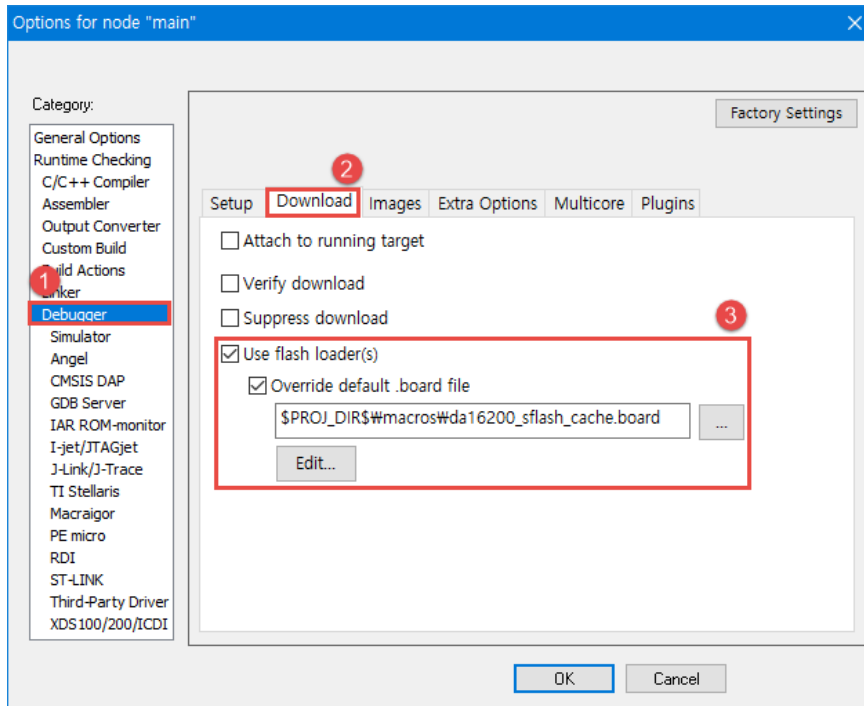

Figure 30: Debugger Download Setting
- g. Select the **Download** tab (2). See Figure 30.
- h. Select the checkbox **Use flash loader(s)** (3).
- i. Select the checkbox **Override default .board file** (3).